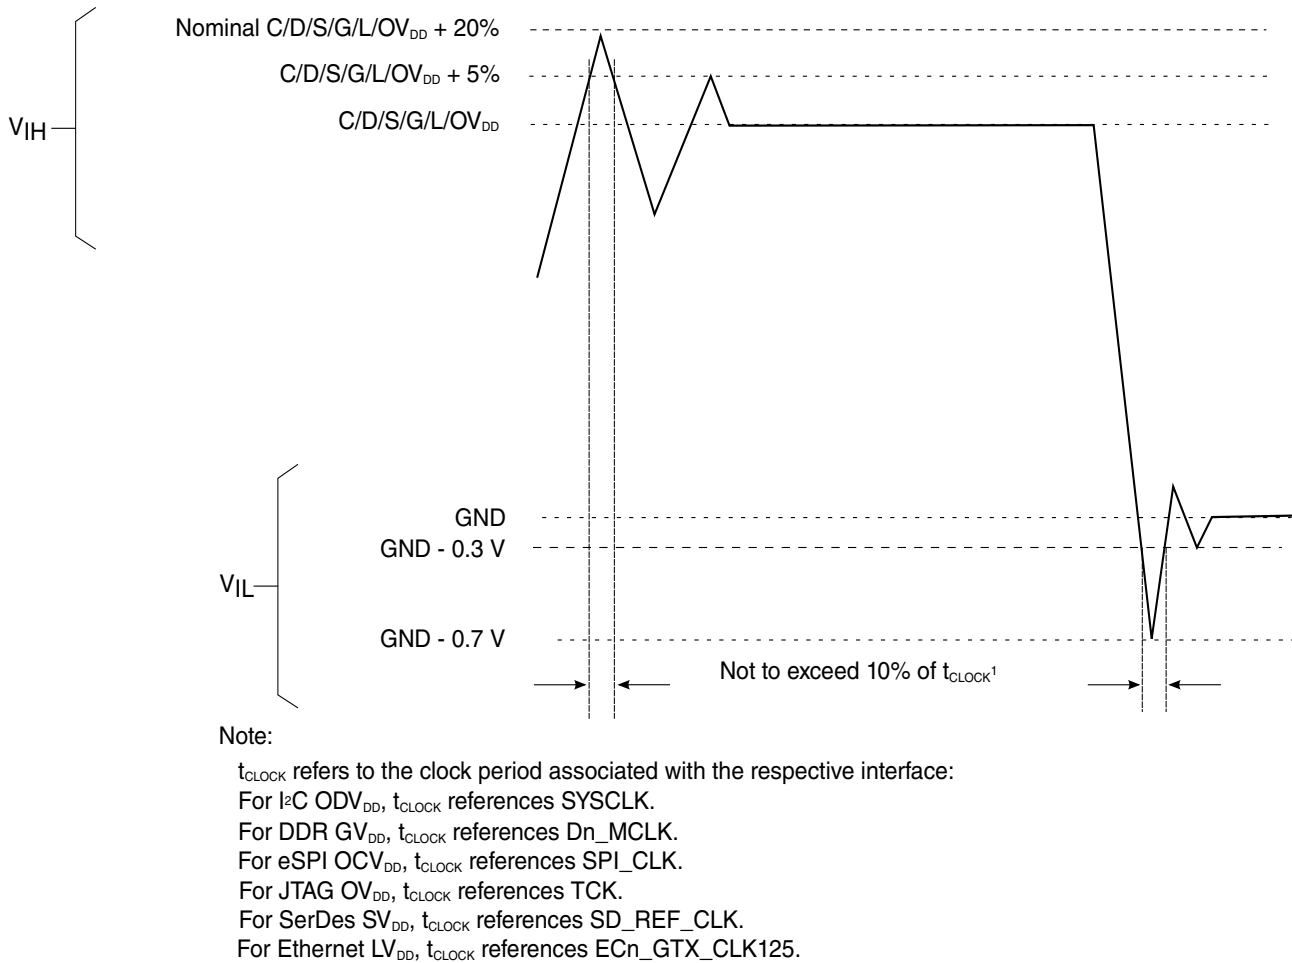

Figure 7. Overshoot/Undershoot voltage for CV_{DD}/GV_{DD}/LV_{DD}/OV_{DD}/SV_{DD}/DV_{DD}
6. $(C, S, G, L, O, D)V_{IN}$, $USBn_V_{IN_3P3}$, $USBn_V_{IN_1P8}$ and $D1_MV_{REF}$ may overshoot/undershoot to a voltage and for a maximum duration as shown in Figure 7 .